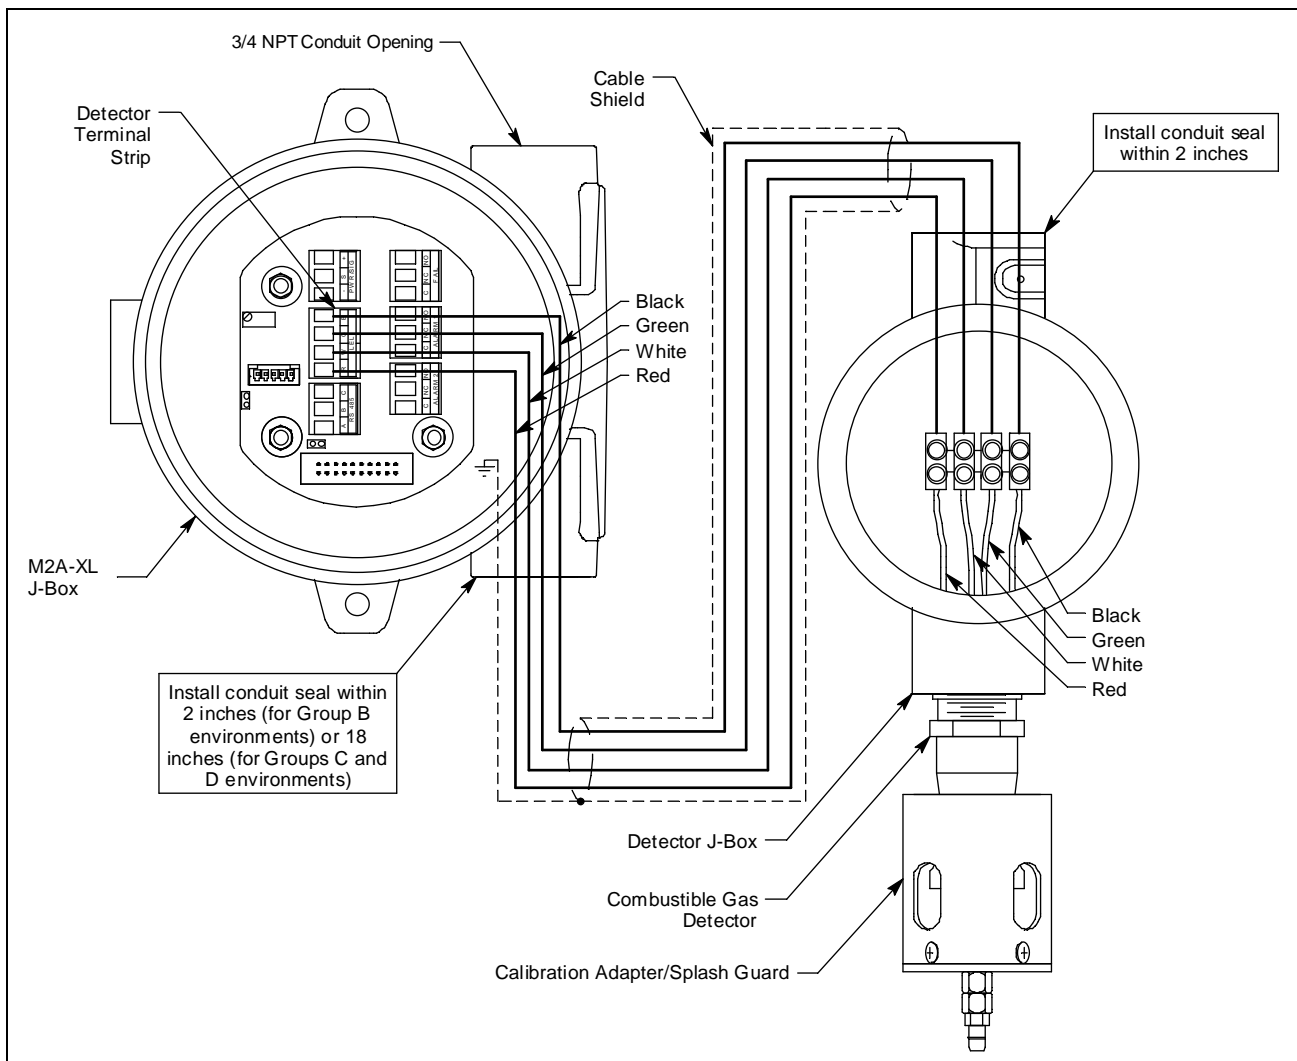

Figure 7: Wiring the Detector to the M2A-XL
7. To maintain the explosion proof classification of the junction boxes, conduit seals must be installed as shown in Figure 7. Adhere to your local electrical code when installing the conduit seal.
13. Pull out the detector terminal strip and connect the four wires to the terminal strip as follows (see Figure 7).
1. To maintain the explosion proof classification of the M2A-XL junction box, a conduit seal must be installed within 2 inches (for Group B environments) or 18 inches (for Groups C and D environments) of the M2A-XL's left conduit hub, in addition to the conduit seals shown in Figure 7. Adhere to your local electrical code when installing the conduit seal.